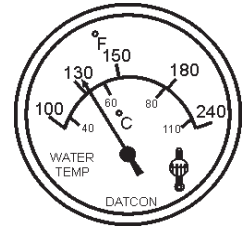

Figure 37. Coolant Temperature Gauge
8. The **coolant temperature gauge** (Figure 37) will indicate the coolant temperature. Under normal operating conditions the coolant temperature should be between 180~221 °F (82~105 °C), **Green Zone**.